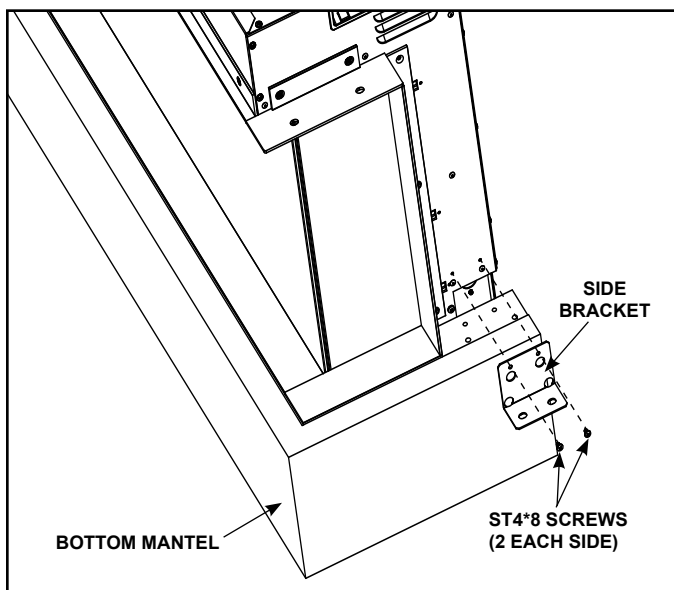

Figure 13
5. Attach two (2) side brackets to the rear sides of the appliance using four (4) ST4*8 screws. See Figure 13.